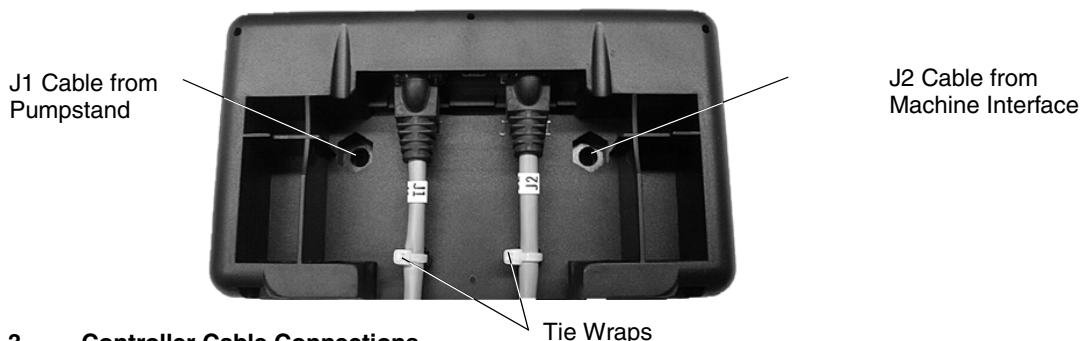

Figure 3 Controller Cable Connections
1. Connect the cable marked “J2” from the Machine Interface (MI) to the connector labeled “J2/MI” on the rear of the Controller.
3. Secure J1 and J2 cables to strain relief points with tie wraps (as shown in *Figure 3*).